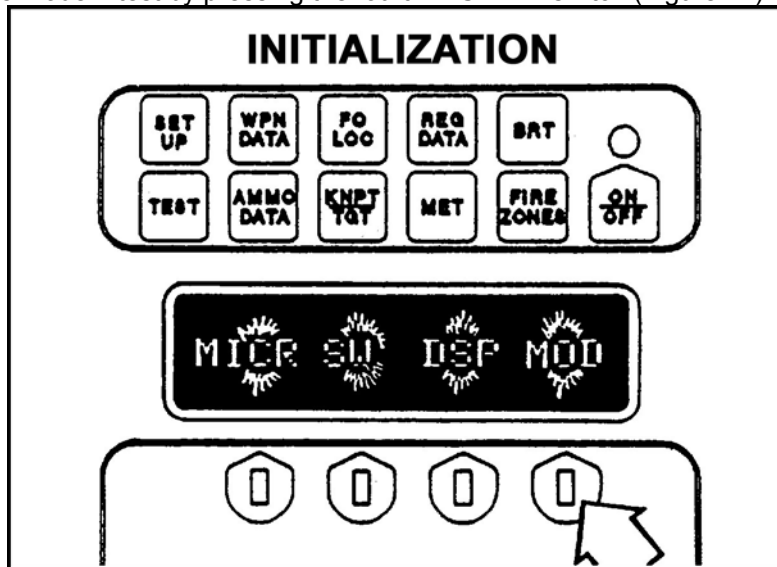

Figure 17. Fourth DISPLAY switch.
- b. Select the modem test by pressing the fourth DISPLAY switch (Figure 17).